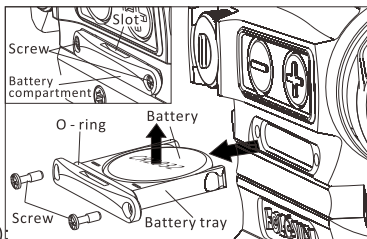

Fig3-1
- 1) Remove the battery (Fig 3-1):